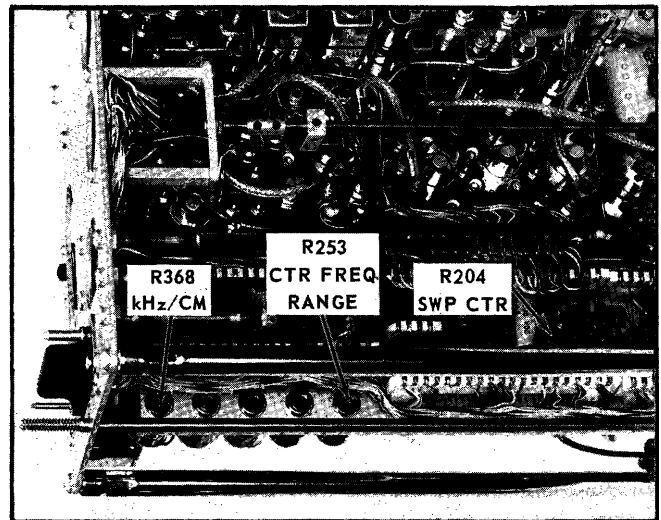

Fig. 6-13. Location of Center Frequency adjustments.
d. Adjust the Center Freq. Range control R253 (see Fig. 6-13) so that the IF feed-through signal does not shift in position as the DISPERSION—COUPLED RESOLUTION control is rotated.